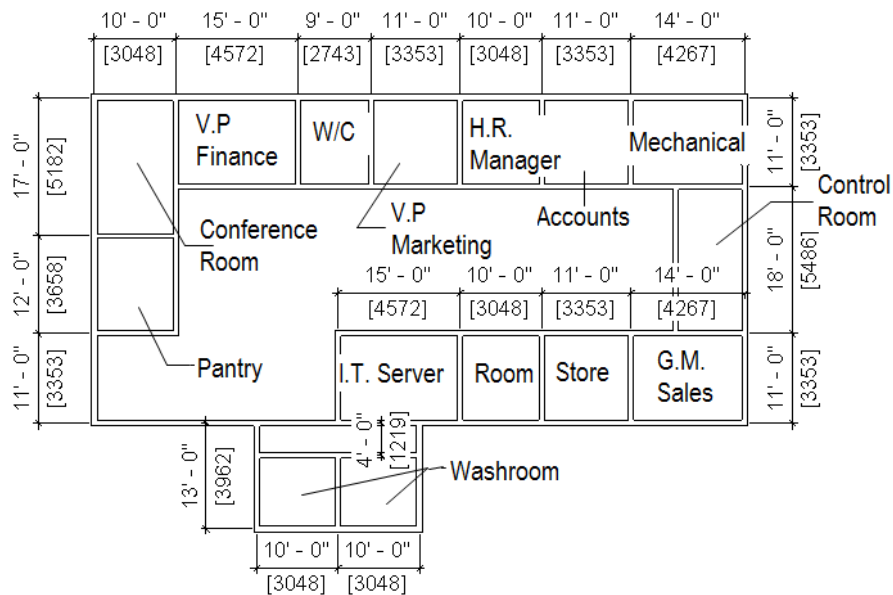

Figure 3-72 Layout of internal walls for Office Building
7. Similarly, you can draw other interior walls by using the **Line** tool, refer to Figure 3-72.